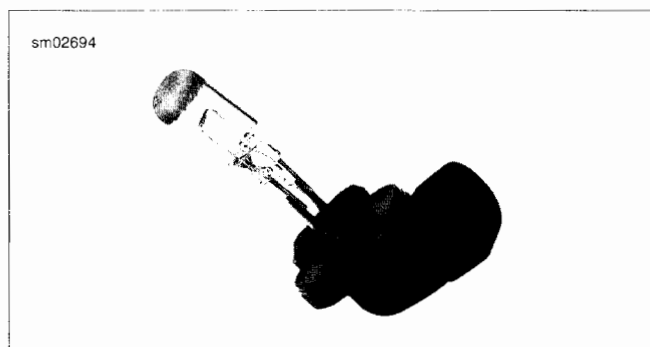

Figure 7-41. Auxiliary Lamp Bulb/Pin Housing
4. See Figure 7-41. Rotate bulb/pin housing 1/4 turn counter-clockwise and remove from auxiliary lamp. Discard bulb/pin housing.
1. See Figure 7-41. Install **new** bulb/pin housing in auxiliary lamp and rotate 1/4 turn clockwise.